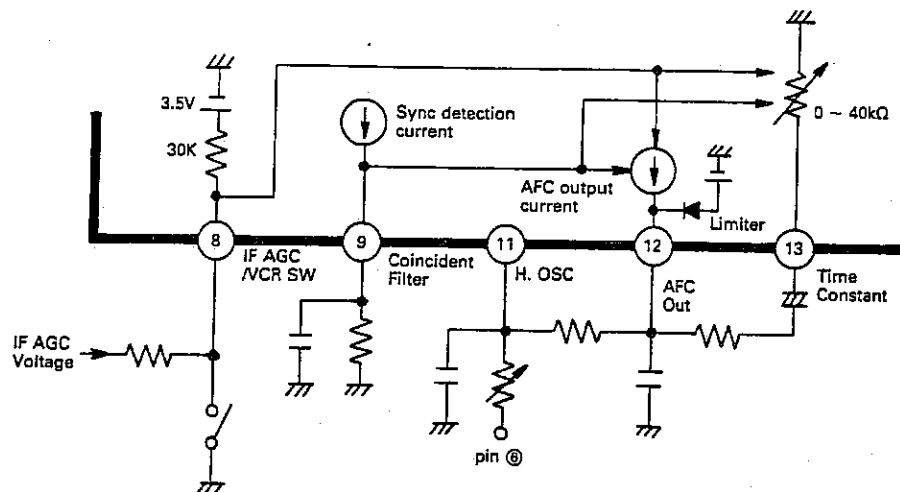

Figure 25.
When the VTR switch is turned on, the loop gain is kept at High level with the time constant set at minimum so as to improve the skew distortion or reproduced picture. The AFC circuitry operation is outlined in Fig. 25 below. There is caused AFC output at pin ⑫, and this pin is connected to the voltage limiter (at the lower voltage side only) so that the oscillation frequency is prevented from going down exceeding the specified lower limit.